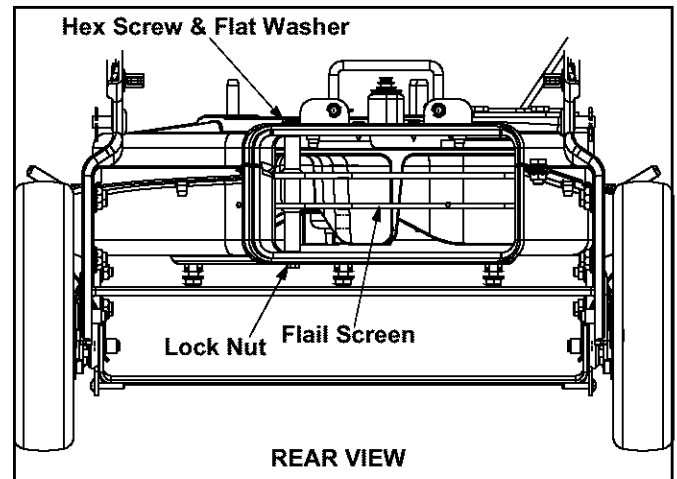
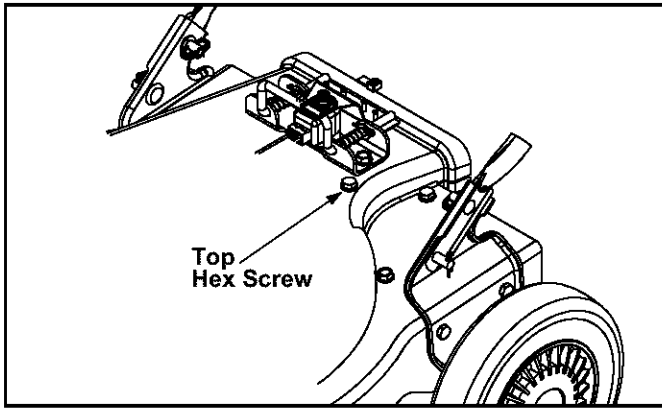

Figure 10
Figure 12
Wheels- Place a few drops of SAE 30 oil on each shoulder screw once a season. See Figure 12.
2. Remove the vacuum bag or blower chute from the unit as instructed in the OPERATION section to obtain access to flail screen. See Figure 10.
4. Remove hex screw and flat washer on top of rear housing near mounting bracket and the lock nut that secures flail screen. See Figure 10 and Figure 12.
5. Remove lock nut that secures flail screen to the lower housing. The flail screen does not have to be removed. See Figure 10 and Figure 12.